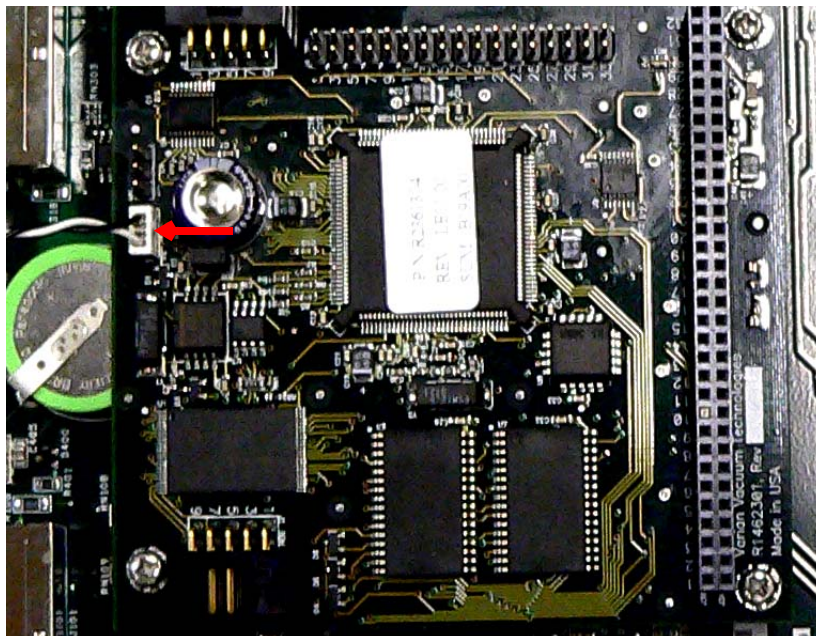

Figure B-27 J100 Connector
4. Disconnect R2142-301 (white/black) connector from the J100 connector (Figure B-27).
11. Reconnect R2142-301 (white/black) connector to the J100 connector (Figure B-27 on page B-19).